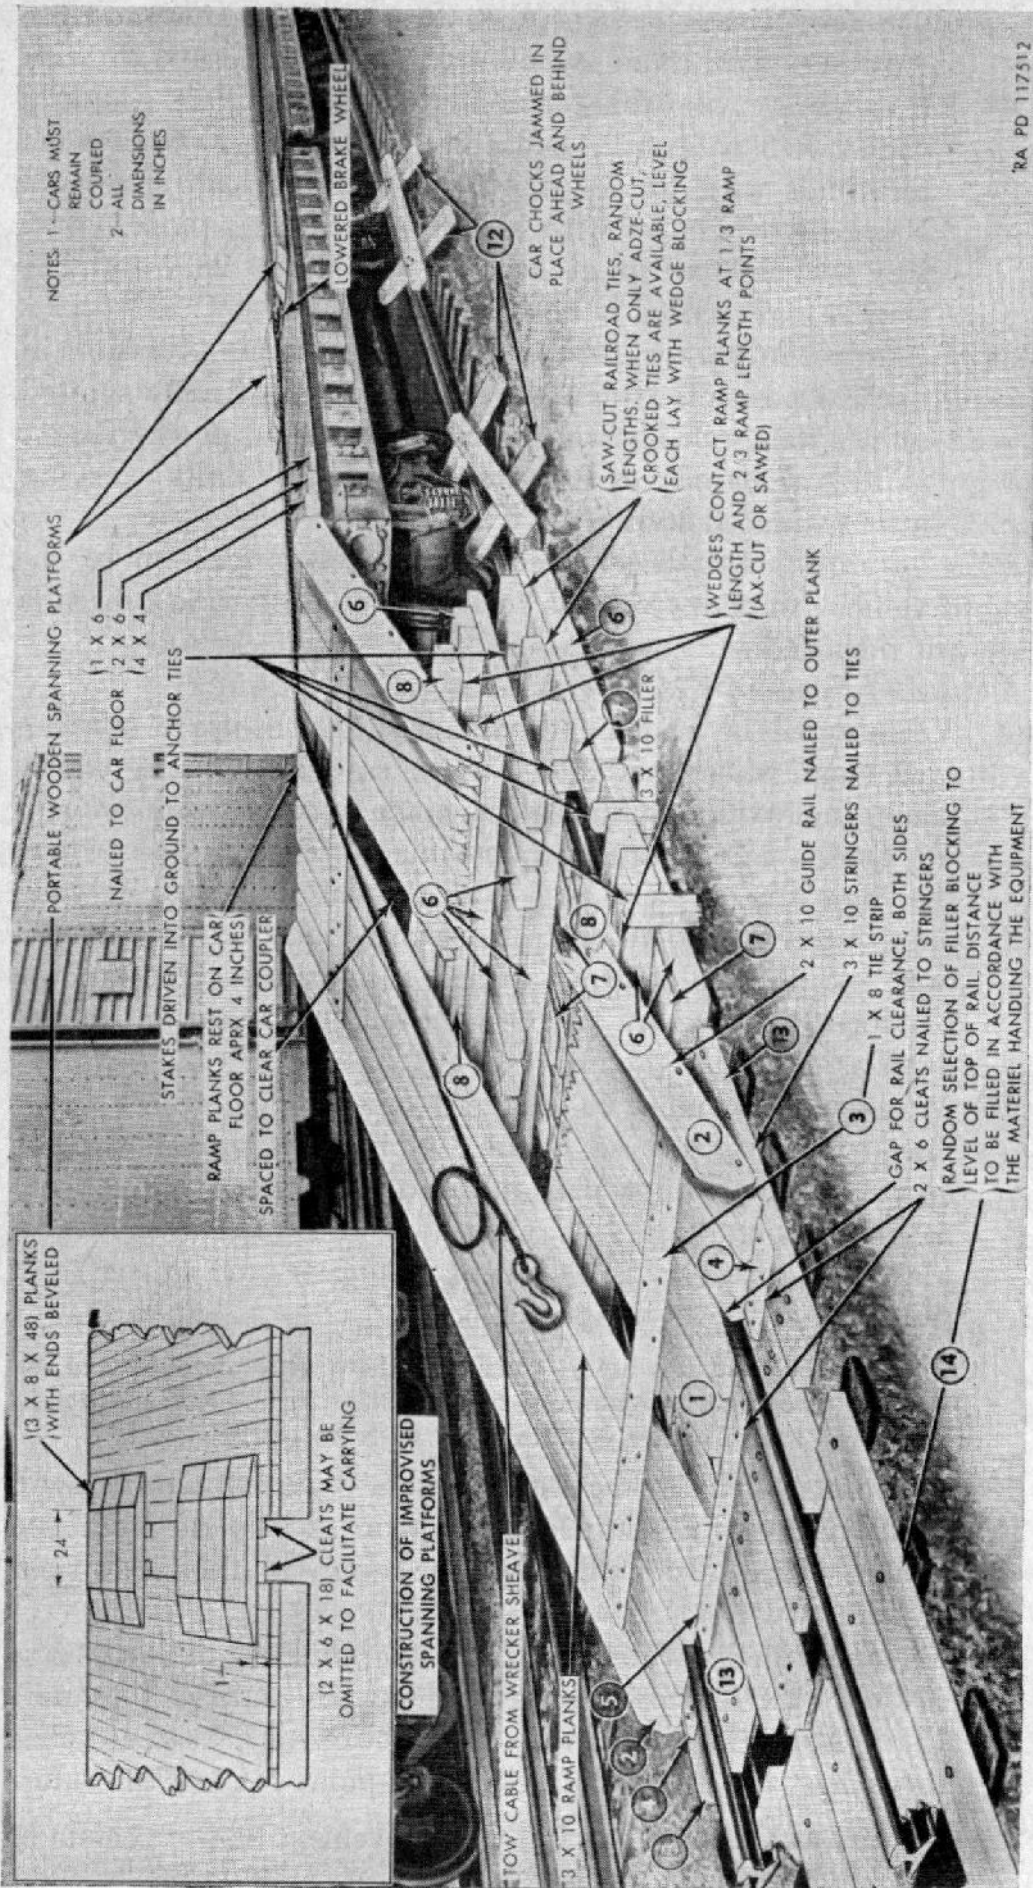

Figure 175. Construction of improvised loading ramp and spanning platforms.
- (1) Vehicles will be loaded and unloaded with the use of hoisting equipment when available. When suitable hoisting equipment is not available for loading on or for subsequent unloading from a flatcar, an end ramp must be used in cases where the vehicle is not on a level with the flatcar deck. Vehicles on a warehouse platform or loading dock can be pivoted over spanning platforms aboard a flatcar adjacent to the platform, then again pivoted into lateral position on the flatcar.
- (2) When vehicles must be loaded from ground level, a ramp may be improvised (*d* below) by borrowing railroad ties normally found stacked in railroad yards and by procuring necessary planking. An efficient end ramp is shown in place in figure 175. The bill of materials used to construct this ramp is shown in figure 176.
- (5) After the first vehicle is loaded on the flatcar, additional vehicles may be similarly hauled aboard by passing the towing cable beneath the loaded vehicle. When a train of flatcars is being loaded, steel or wooden spanning platforms or bridges are used to cover the gap between cars. Flatcar brake wheels must first be lowered to floor level to permit passage. A pair of improvised spanning platforms are shown in place in figure 175. These spanning platforms are moved along the train by hand as the vehicle advances.
- (6) The above method train loading requires careful advance planning as to the order of loading, so that vehicles are arranged on each flatcar under prescribed methods and combinations.
- (7) For powering the towing cable, a vehicle with a winch is spotted at *right angles* to the train. It is located at about the third or fourth flatcar to facilitate signaling and because of cable limits. A single-sheave snatch block located between cars on the train center line will provide the necessary *lateral* pull. A vehicle passing this point can be towed by a vehicle on the ground with personnel guiding its passage. A long tow cable from the towing vehicle will lessen the tendency of the towed vehicle to stray from the center line of the train.
- (1) A ramp for end loading of vehicles on open top freight cars may be improvised when no permanent ramps or hoisting facilities are available. A ramp suitable for the loading of most ordnance items is shown in figure 175. For loading the tractor, the width of the ramp may be reduced to two double-planked runways, each cleated together. Length of planking must be determined with consideration to underhull clearance, in order to clear the hump at upper end of ramp.